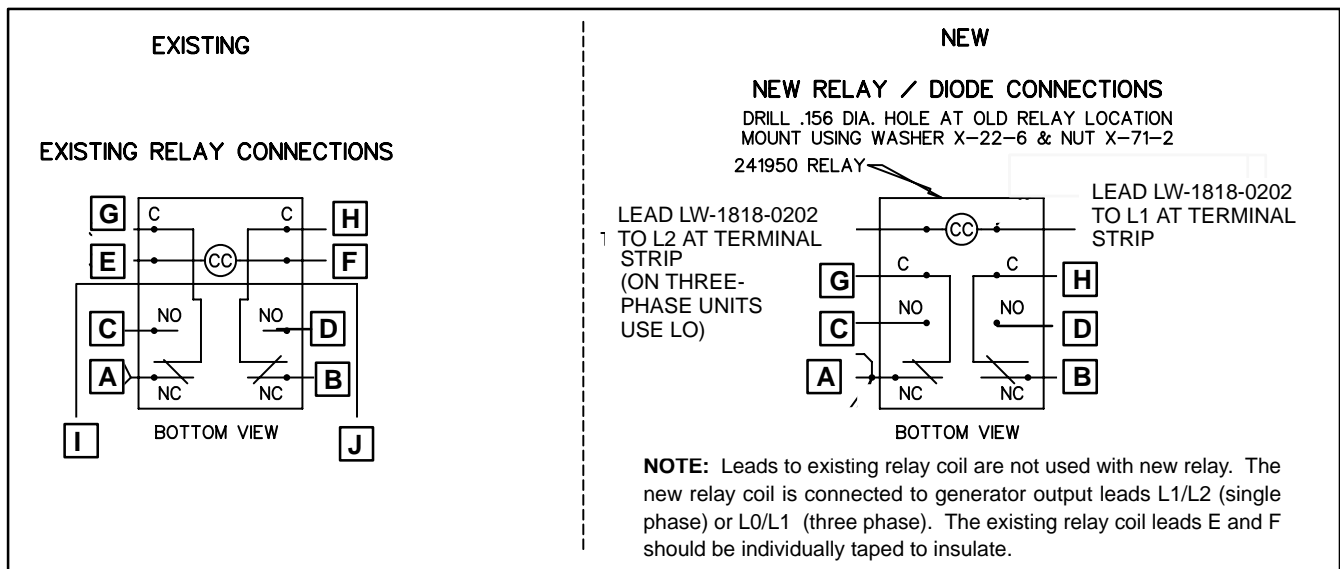
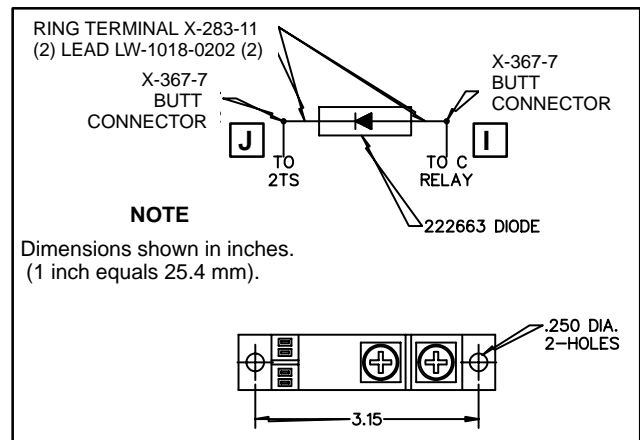

Figure 4. Wiring Diagram for CC Relay
Figure 5. Diode Mounting Instructions
3. Examine existing CC relay and compare to the illustration in Figure 4. Identify the leads using the letters shown in Figure 4. Do this using masking tape or some other means to properly identify each lead.
Locate diode (222663) in a location to which 10-ga. leads will reach and drill two 0.25 in. (6 mm) dia. holes to mount diode. See Figure 4. Mount diode using two screws (X-50-3), lock washers (X-22-9), and nuts (X-70-2). Connect leads (I, J) to diode observing connection provided in Figure 5.
7. Drill one 0.156 in. (4 mm) dia. hole to mount new relay. See Figure 4 for drilling instructions. Location should be as near as possible to old relay location.
12. Connect remaining controller leads to relay using Figure 4 and appropriate wiring diagram.